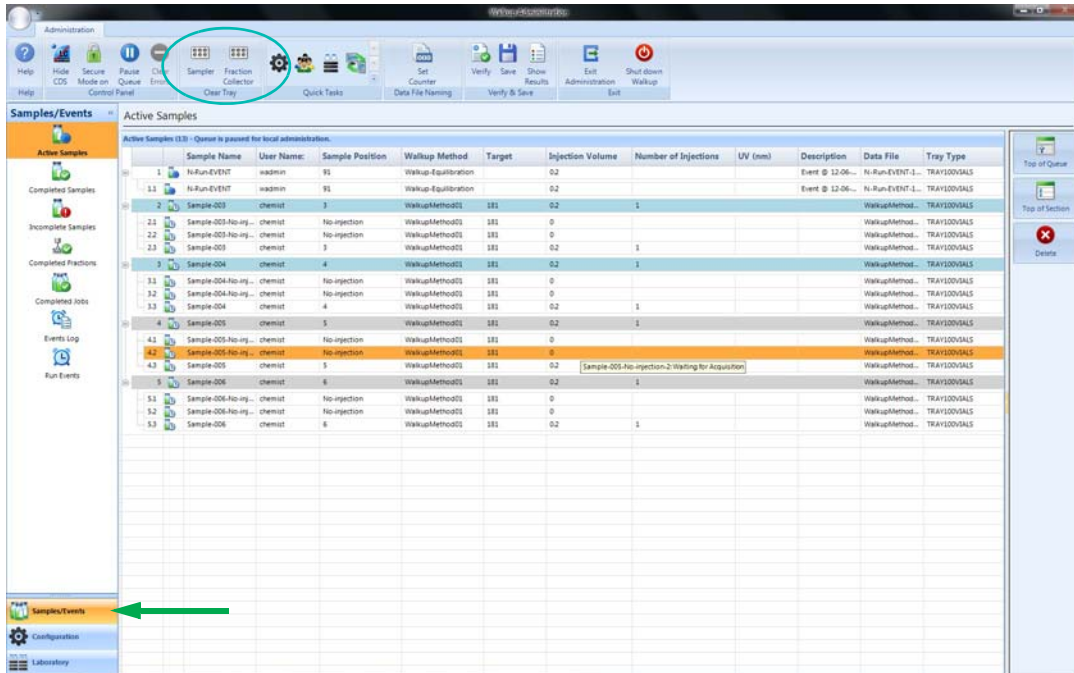

Figure 20 Clear Sampler Tray in the Samples/Events ribbon
- 4 Click **Samples/Events**  from the list of actions along the left side of the Administration main window (see **Figure 20**). See **“To open the Samples and Events pane”** on page 38.